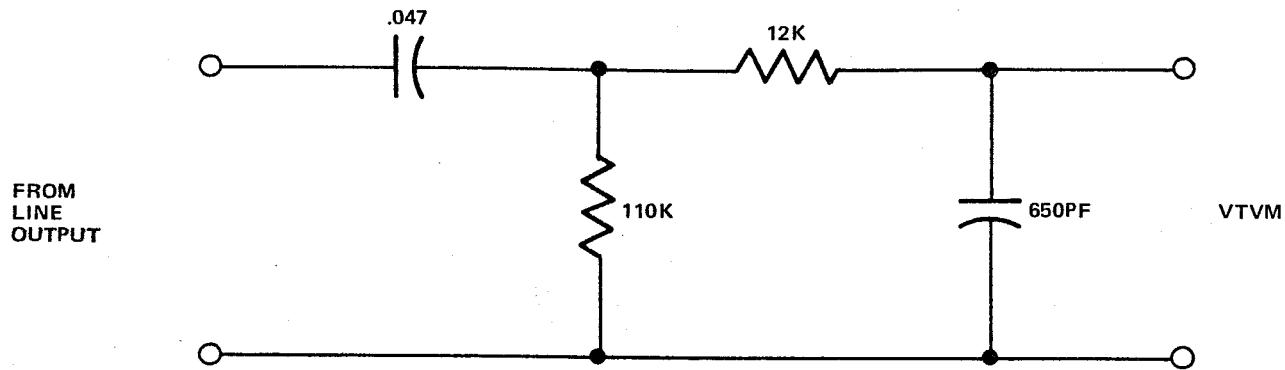

Figure 18. 30 Hz – 18 kHz Band-Limiting Filter
10. Connect a band-limiting filter (Figure 18) between line output and a vtv to measure reproduce standby noise. The vtv reading should be less than -58 dBm at either speed for 8 or 16-channel systems, or less than -54 dBm for 24-channel systems.
3. Rewind the tape to the beginning of the recorded section and remove the oscillator input signal. The inputs should be terminated with a low impedance (600 ohms) or shorted. Connect a vtv to the line output via a bandpass filter (see Figure 18).